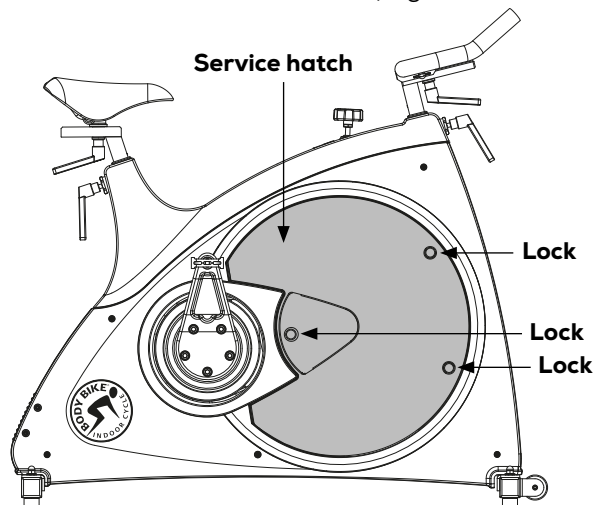
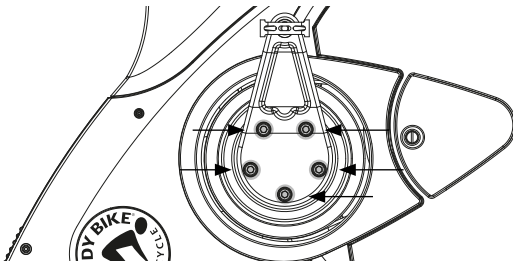

Figure 20
Figure 31
1) Remove the service hatch. See figure 20. Remove the right side cover by loosening the 8 bolts by using a 3 mm Allen wrench. **Go to page 28.**
- 1) Remove both service hatches by loosening the locks with a coin, see figure 20.
1) Remove the service hatch on both sides of the cycle by loosening the three locks with a coin, see figure 20.
1) Remove the left side service hatch with a coin, see figure 20 page 23.
- 1) Dismount the right pedal arm with an 8mm Allen wrench. See figure 31. Remove hatch. See figure 20.